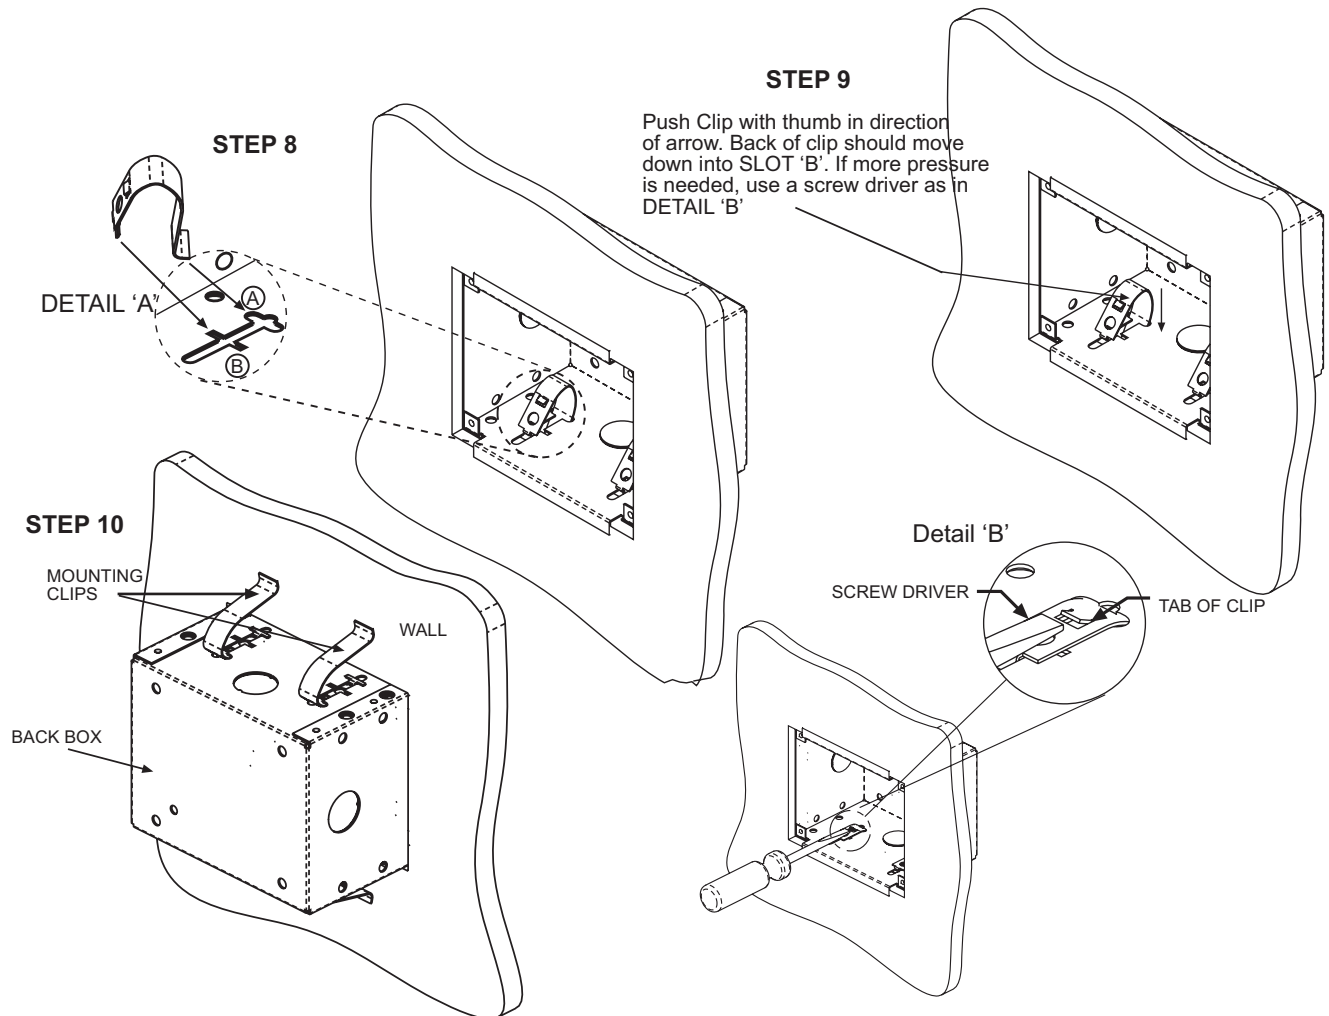

Figure 7 – Installing Back Box Mounting Clips
8. Insert the Mounting Clip into SLOT 'A' and 'B' as shown in Detail 'A' of **Figure 7**.
9. Push the Clip with your thumb in the direction of the arrow. The back of the clip should move down into SLOT 'B'. **Note:** If more pressure is needed, use a screw driver as shown in Detail 'B' of **Figure 7**